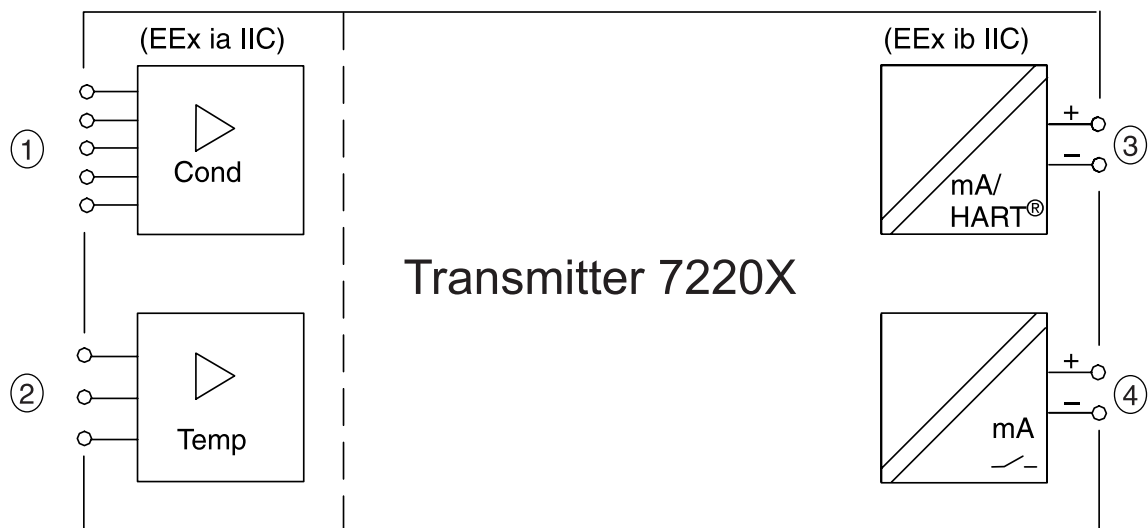

Fig. 2-1 System functions of Transmitter 7220X
Fig. 2-1 shows the system functions. 2-electrode and 4-electrode sensors ① and a temperature probe ② can be connected.